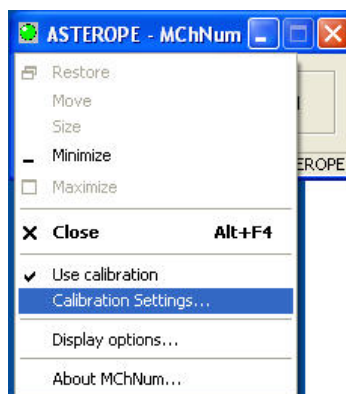

Figure 5-1 MChNum context menu
4. Click the Green LED at the top left corner of the MChNum Browser window or right click the top pane to display the MChNum context menu (Figure 5-1).